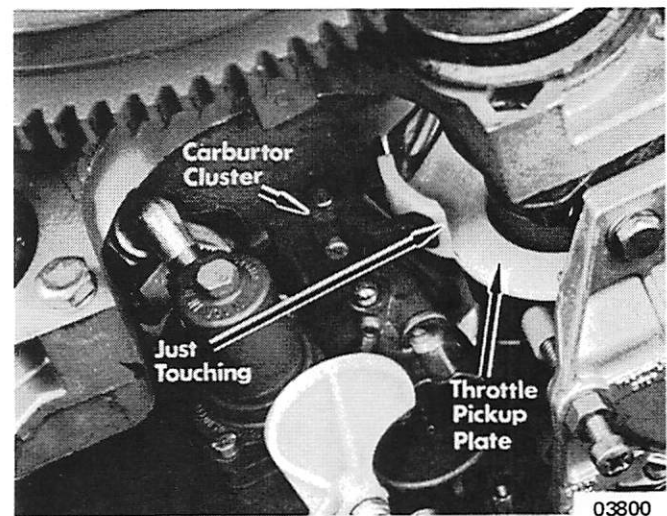

Figure 13. Throttle Pickup Tab Adjustment (Merc 1000SS)
- a. Using timing lite, advance throttle until timing mark (3 dots) on flywheel align with  $5^{\circ}$ - $7^{\circ}$  BTDC line on timing decal. At this point, carburetor pickup should just touch carburetor cluster (.000" to .005" [.127mm] clearance). (Figure 13)
- b. Loosen screws, which hold throttle pickup plate, and adjust if necessary. (Figure 13)